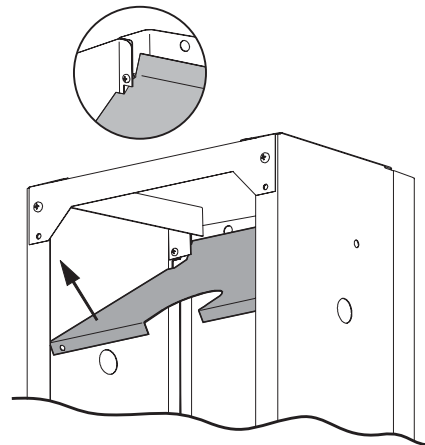

Figure 8
- Attach the Heat Shield to the Left and Right side assemblies with two 1/4-20 x 3/4 Phillips Truss Head screws and 1/4-20 Hex nuts. Make sure shield is resting on the cutout provided in the side panels before tightening the screws and nuts. See Figures 8 and 9. Note: Grill head removed for clarity.